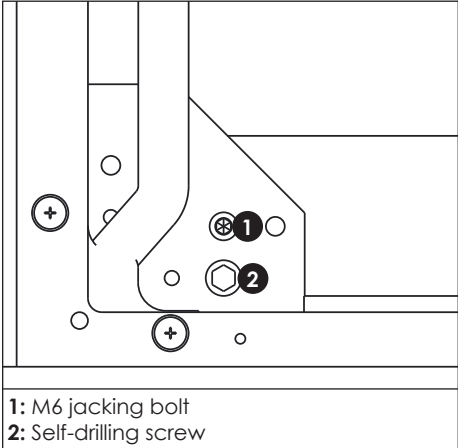
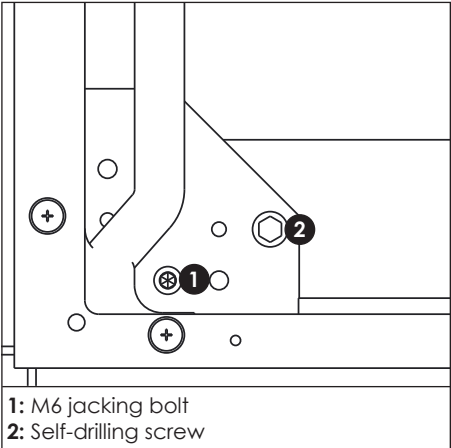

Figure 2: Standard Panel-to-Tube Attachment
Figure 3: Alternate Panel-to-Tube Attachment
**Figure 2** shows standard panel-to-tube attachment. If there is bolt head interference at the standard location, use the attachment pattern shown in **Figure 3**.
1. Insert one self-drilling screw and one M6 jacking bolt in the lower-left and lower-right corners on each panel. Refer to **Figure 2**.
3. Use the alternate mounting holes as shown in **Figure 3** to secure a panel if a tube-to-wall mounting bolt head interferes with the standard mounting hardware.